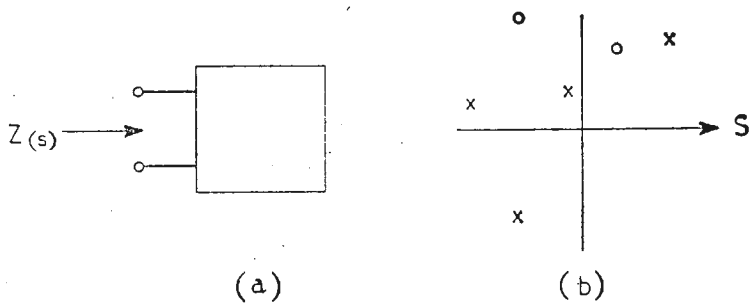

Fig. 1 (a) A passive "black box" and (b) its pole-zero diagram.
**P**ROVIDING us with food for thought is our old friend, the two-terminal black box (Fig. 1(a)). The box is passive, i.e., it may contain any (linear) circuit elements (e.g., R's, L's, C's) but no sources of energy. This article sets out to examine some of the simpler properties that must be possessed by the impedance of such a network. For all but the most trivial cases we will have to write the impedance as  $Z(s)$ , i.e., as a function of complex frequency  $s = \alpha + j\omega$ .
"Cathode Ray" fans, will know that we can characterize an impedance function, apart from a multiplying constant, by giving the positions of all its poles and zeros. We will keep this correspondence between  $Z(s)$  and its pole-zero diagram well to the fore, and in particular we will try to find what arrangements of noughts and crosses are allowed. Our first thoughts would lean towards the view that practically any function  $Z(s)$  is possible, if networks of sufficient complication can be manufactured. Hence Fig. 1(b) might well be a valid pole-zero plot.